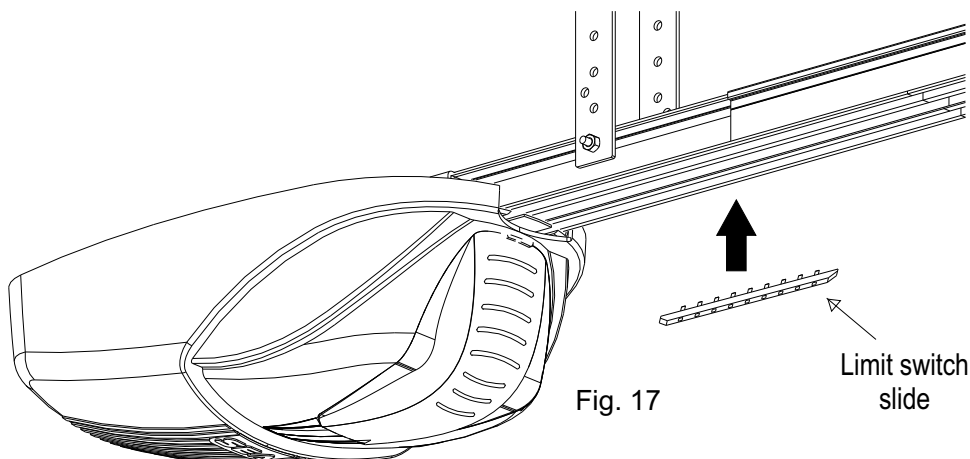
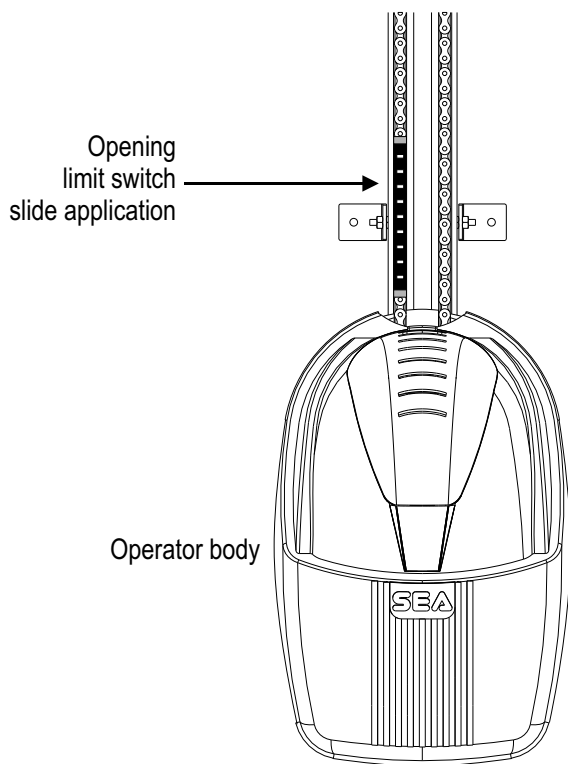
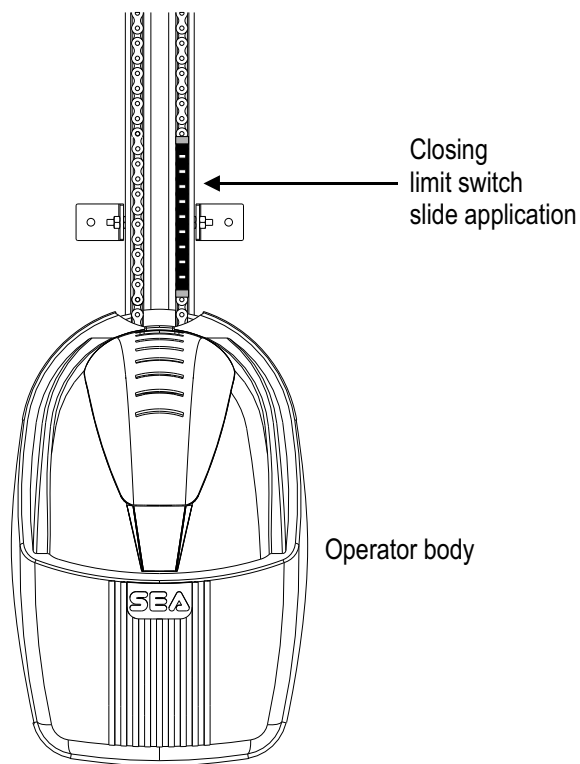

Fig. 17
Fig. 18a
Fig. 18b
- fix the limit switch slide (Fig. 17) as near as possible to the operator body near the switch wheel as shown in Fig. 18a
- fix the limit switch slide (Fig. 17) as near as possible to the operator body near the switch wheel as shown in Fig. 18b